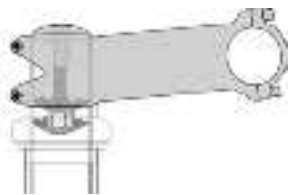

fig. 13
**🔧 DEALER:** If your bike has a “threadless” stem (fig. 13) your Dealer can help change the handlebar height by moving height adjustment spacers from below the stem to above the stem, or vice versa. Otherwise, you’ll have to get a stem of different length or rise. Consult your Dealer. Do not attempt to do this yourself, as it requires special knowledge.